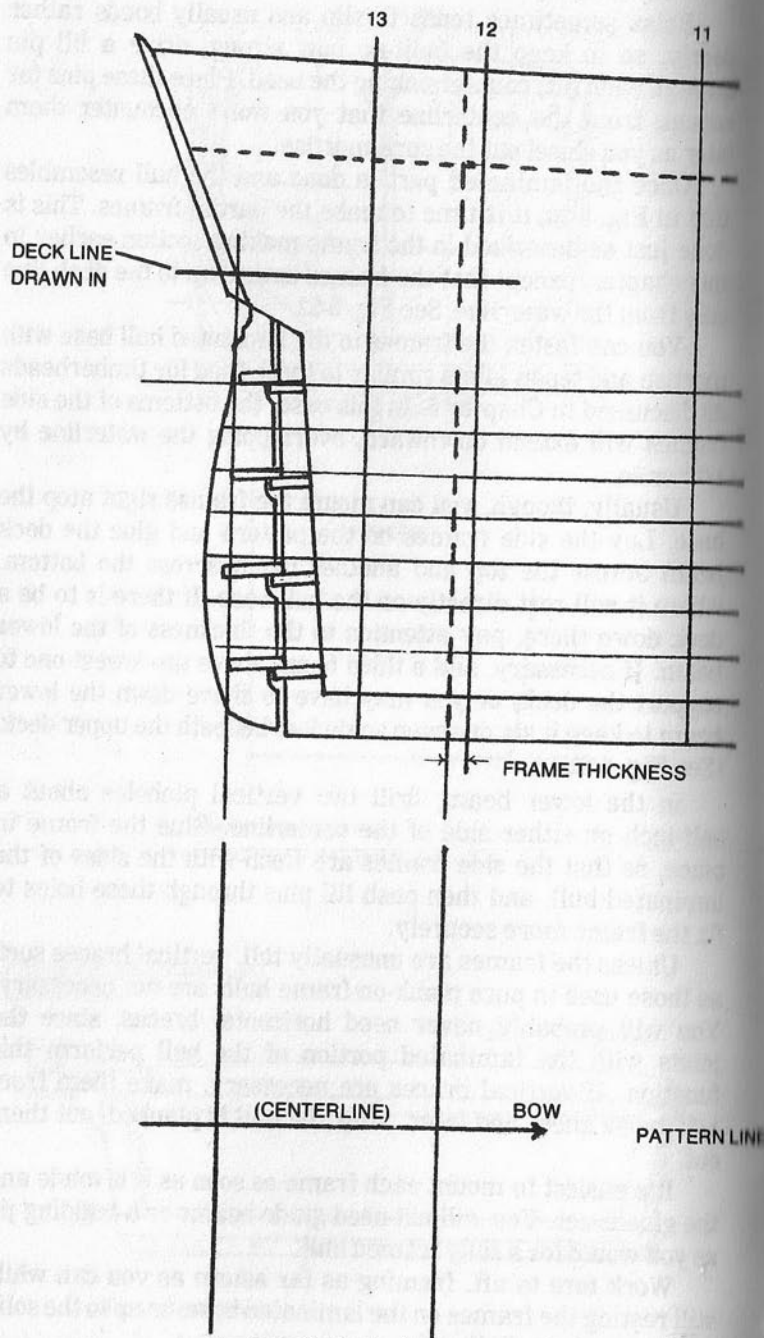

Fig. 6-23. Cabin deck—step 1.
1. Draw the cabin deck line on the side view and measure from the section of the mounting frame to the transom fore side. Subtract the thickness of the frame. This gives the length of the deck. On a piece of paper, draw two parallel lines as far apart as the length of the deck and bisect both with a perpendicular line. (See Fig. 6-23).